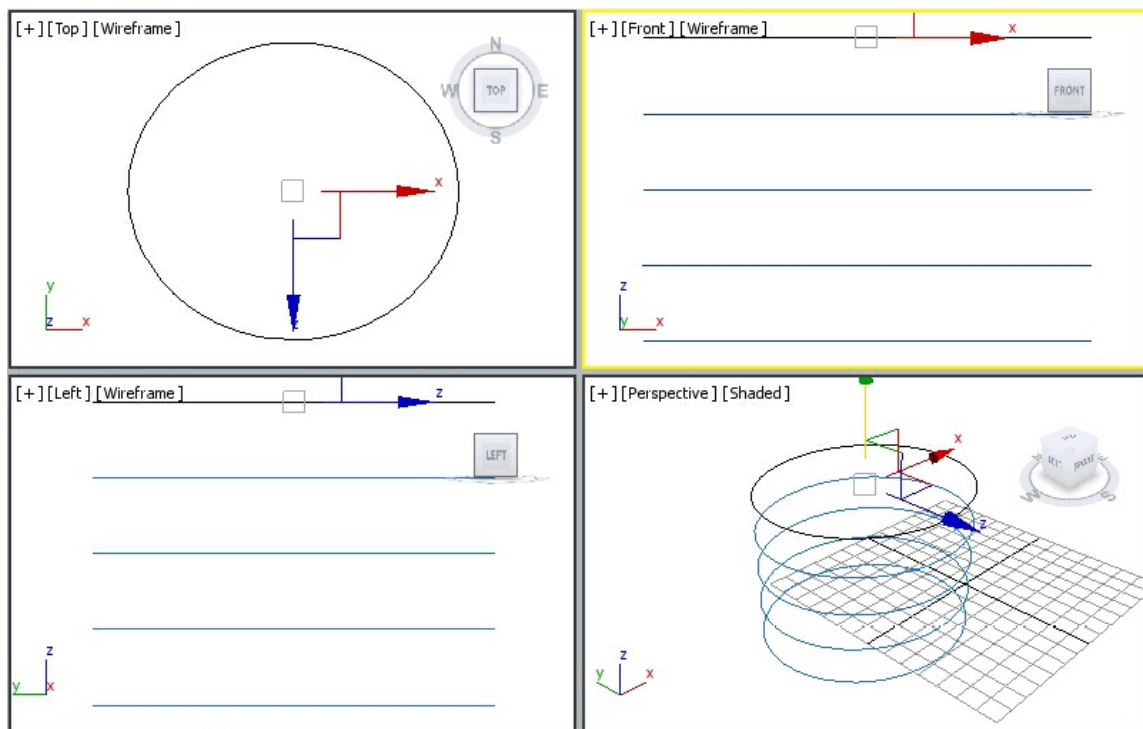

Figure 10-86 *The circular NURBS curves displayed in viewports*
8. Choose the **Zoom Extents All** tool; the circular NURBS curves are displayed in the viewports, as shown in Figure 10-86.